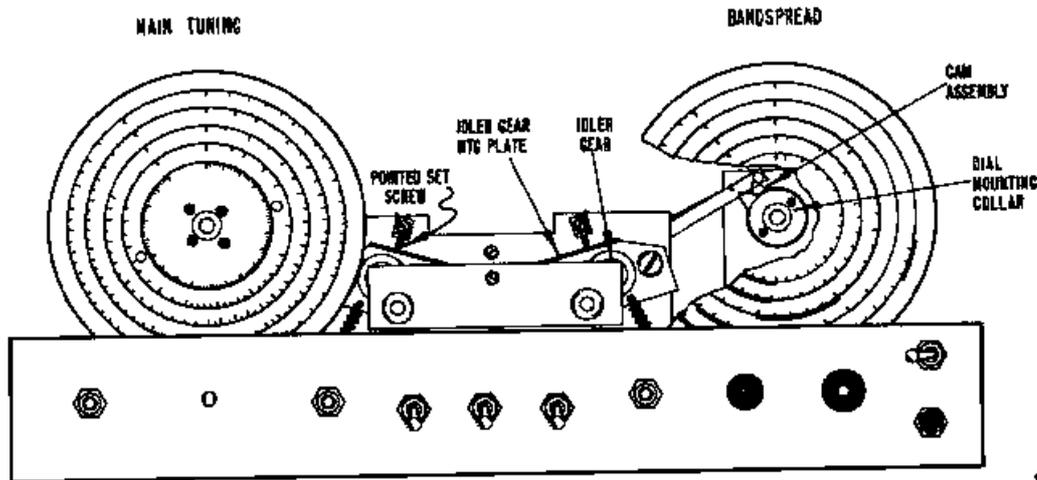

Fig. 14. Front View of Gear Drive Tuning Mechanism
To restring the bandspread dial cable first remove the front panel from the cabinet by removing the control knobs, the toggle switch and Phones jack mounting nuts, the Sensitivity control mounting nut, the two screws at each side of the front panel, and three screws on the underside of the front panel. Leave the bandspread dial in place but remove the main tuning dial to gain access to the pulley on the bandspread gang. This is accomplished as follows (Refer to Fig 14.): (1) Remove the two screws at the front of the dial. (2) Loosen the pointed set screw to the right of the dial. (3) Disengage the idler gear from the dial by lifting upward on the idler gear mounting plate and (4) Carefully remove the dial.
If the index marks at the low end of the bandspread dial are not vertical with the Bandspread control set fully clockwise: (Refer to Fig 14)
- 4 With the right hand, hold the cam assembly in the position shown in Fig 14, with the thumb of the left hand lift the idler gear mounting plate upward to disengage the dial, and with the index finger of the left hand carefully rotate the dial until the index marks at the low-frequency end are vertical. After the dial is properly positioned, reseat the idler gear and tighten the two set screws on the collar.
To replace the main tuning dial: (Refer to Fig 14)